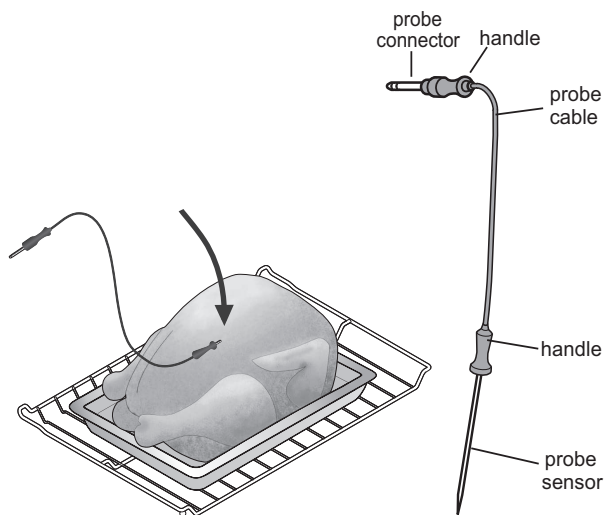

Figure 22: Components of meat probe (top) Proper placement for poultry (bottom)
- For whole poultry or turkey, insert the probe into the thickest part of the breast (Figure 22).